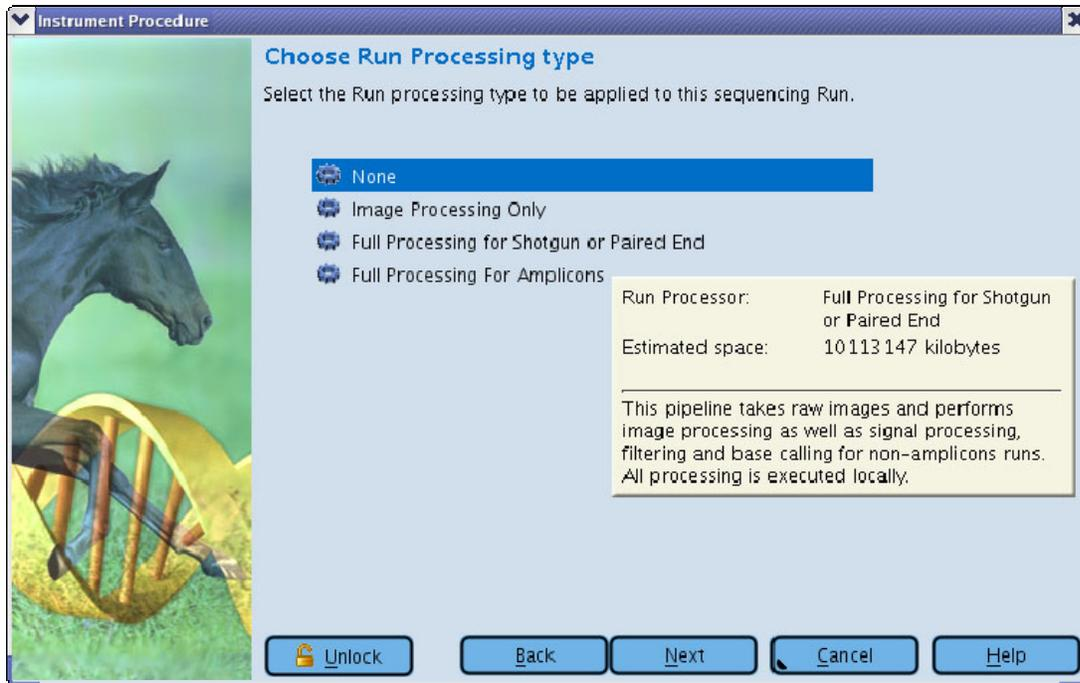

Figure 15: GS Sequencer Run Wizard – ‘Choose Run Processing type’ window
7. **Choose Run Processing Type** (Figure 15) – There are four different options to launch a data processing job on the Genome Sequencer FLX Instrument: